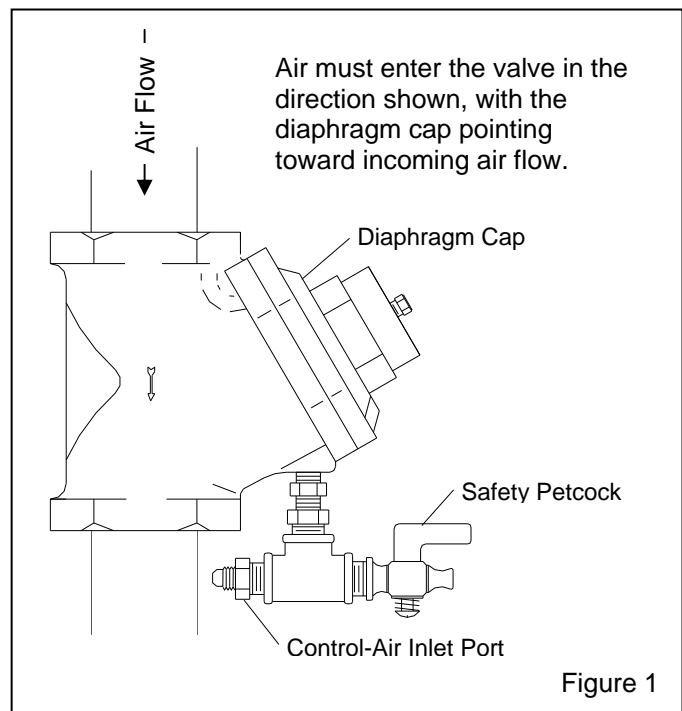

Figure 1
1.3 Description: When correctly installed as shown in Figure 1, the ACE air valve is normally-closed and pneumatically-operated, requiring compressed air to open. The valve is typically used with a pneumatically-operated abrasive metering valve on pressure-hold remote control systems.
2.2 Use new pipe fittings to connect the valve to the blast machine. The air valve is a directional-valve; it must be installed so air flows through the valve as shown in Figure 1.